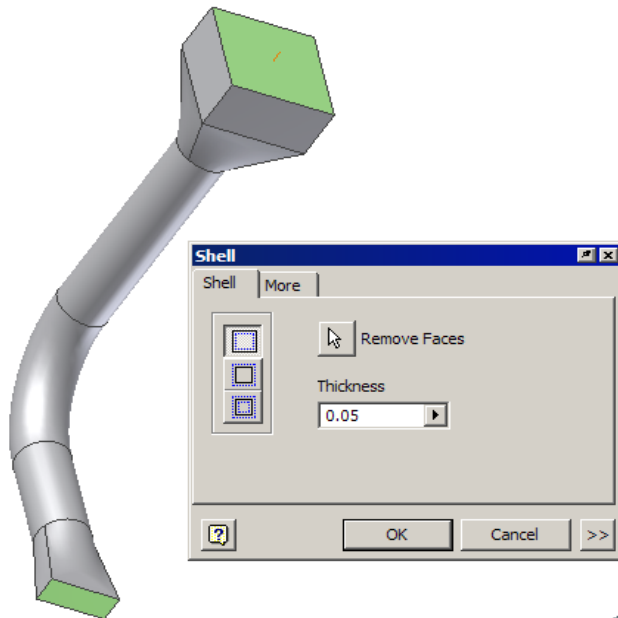

Figure Step 21
**Step 21** Shell the part with a width of 0.05 inches and remove both end as shown in Figure Step 21.